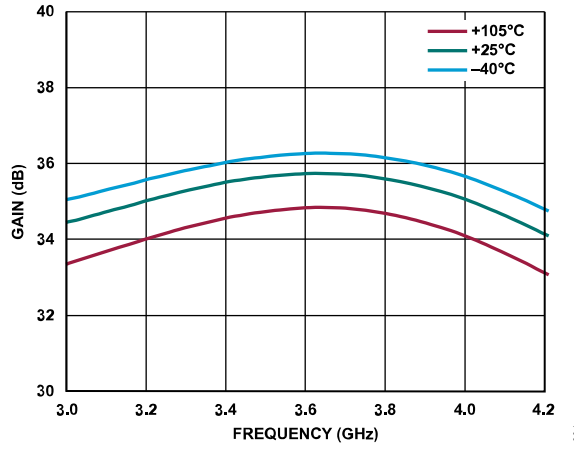
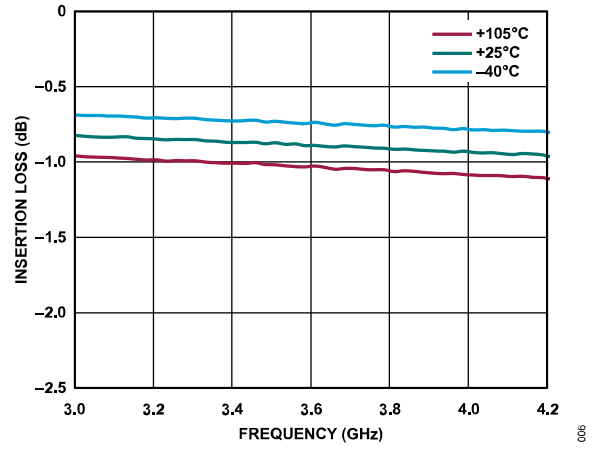

Figure 4. Gain vs. Frequency at Various Temperatures
Figure 6. Insertion Loss vs. Frequency at Various Temperatures
5. The ADRF5534-EVALZ is expected to have a receive gain of 35.5 dB and transmit insertion loss of 0.8 dB at 3.6 GHz. See the expected results in Figure 4 to Figure 6.